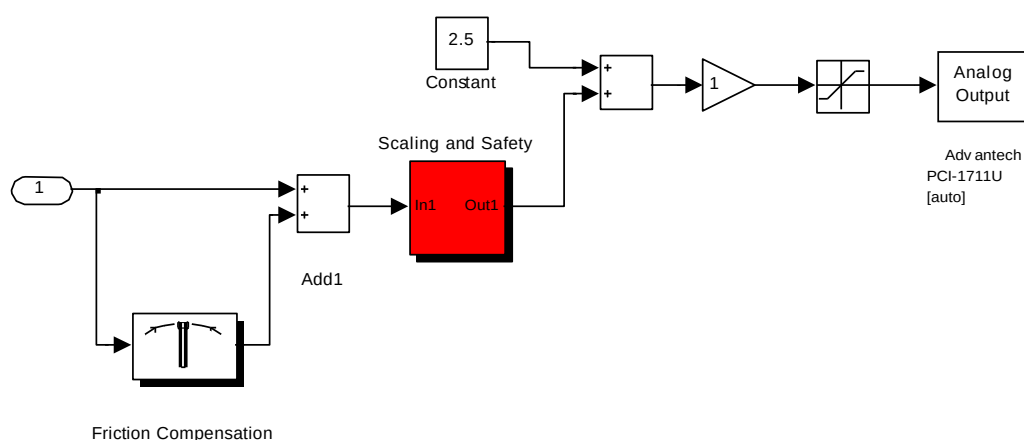

Figure 31 Feedback DAC Block - Under Mask
- Choosing “Look under Mask” will cause the subsystems to appear (Figure 31).